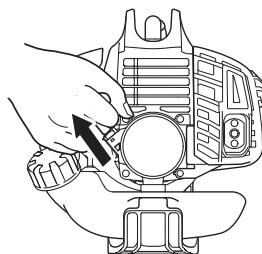

Fig. 16
3. Pull recoil starter briskly, taking care to keep the handle in your grasp and not allowing it to snap back. (Fig. 16)